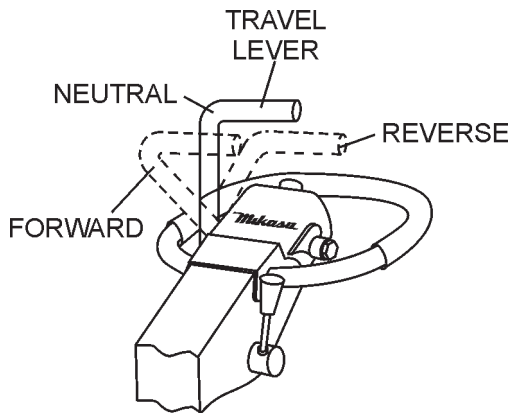

Figure 21. Travel Lever
- To make the compactor move in the forward direction push the travel lever (Figure 21) forward.
- To make the compactor move in the reverse direction pull the travel lever (Figure 21) backwards.